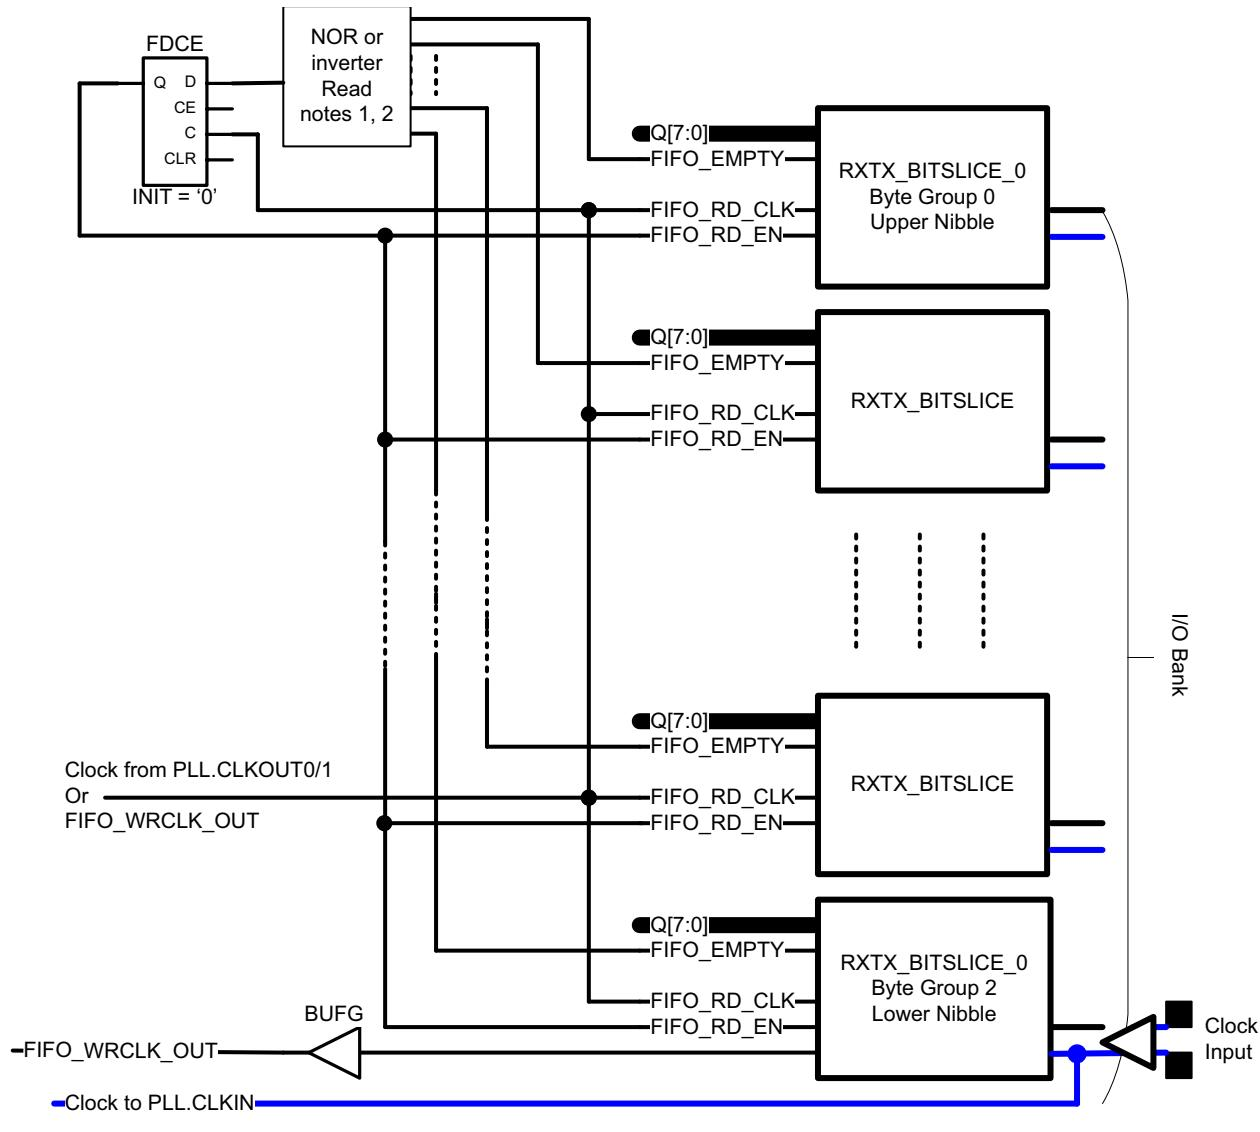

Figure 2-37: FIFO as Bit Slice Output Synchronizer (Multiple Clocks or Strobes)
**Note:** Farthest means the bit slice at the end of the clock backbone. As shown in Figure 2-37, the clock arrives in the lower nibble of byte\_2 and is passed through the inter-byte and inter-nibble backbones to the upper nibble of byte\_0.
- The NOR gate waits for the last FIFO\_EMPTY to transition Low before triggering the FIFO\_RD\_EN through the optional flip-flop (see Figure 2-37).